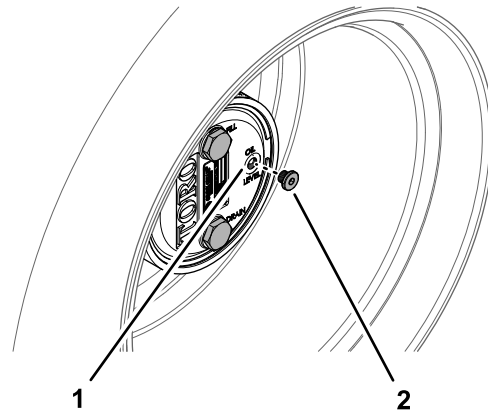

Figure 91
2. Remove the check plug at the 3 o'clock position (Figure 91).